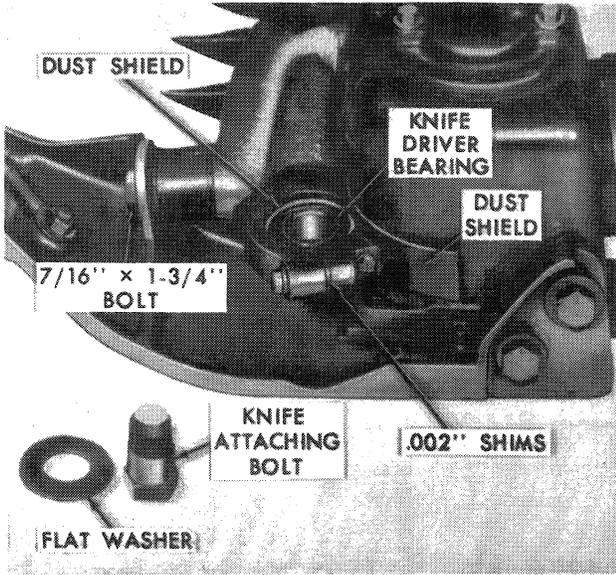

Figure 3
1. Remove the knife attaching bolt, flat washer, and dust shield, Figure 3.
2. If the bearing is loose or rotates roughly, loosen the 7/16" x 1-3/4" bolt, Figure 3, and carefully tap the bearing out of the driver arm. Tap a new bearing into place in the driver arm.